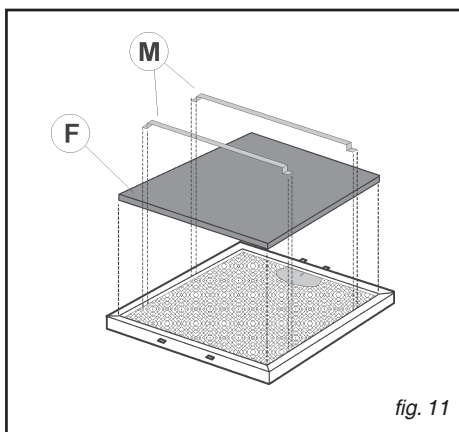

fig. 11
- Take away the coal filters (F) and the filters-stop (M) which are placed on the grease filter (Fig. 11).